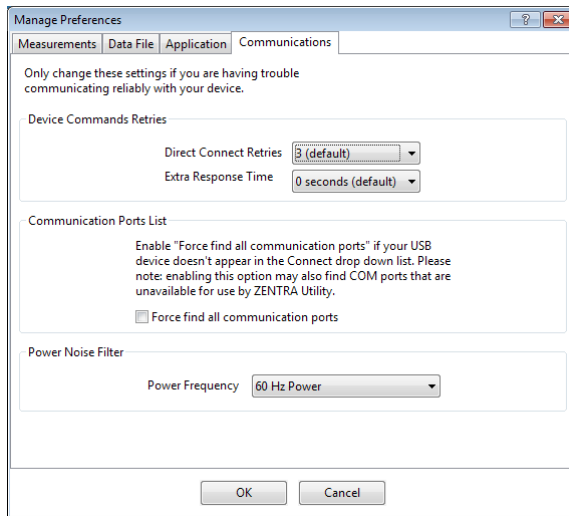

Figure 22 Communications tab
- Communications Tab (Figure 22):